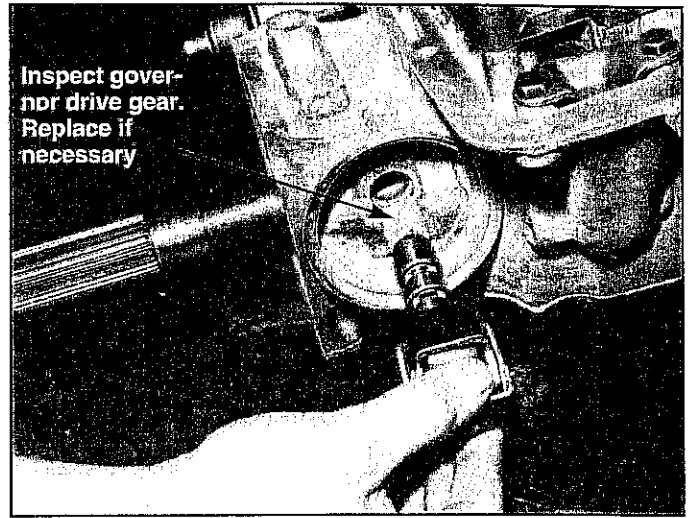

FIGURE 58
STEP 38. Inspect governor gear for damage. Replace as necessary. Lubricate governor bore with automatic transmission fluid and install governor assembly. (See Fig. 58) Install governor cover and O-ring. Do not bend or distort cover. Install retaining clip.